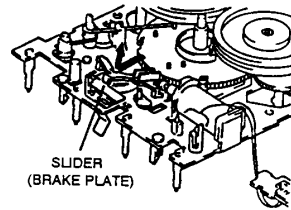

Fig. 4
- Lift up the slider (brake plate) in the arrowed direction (fig. 4).